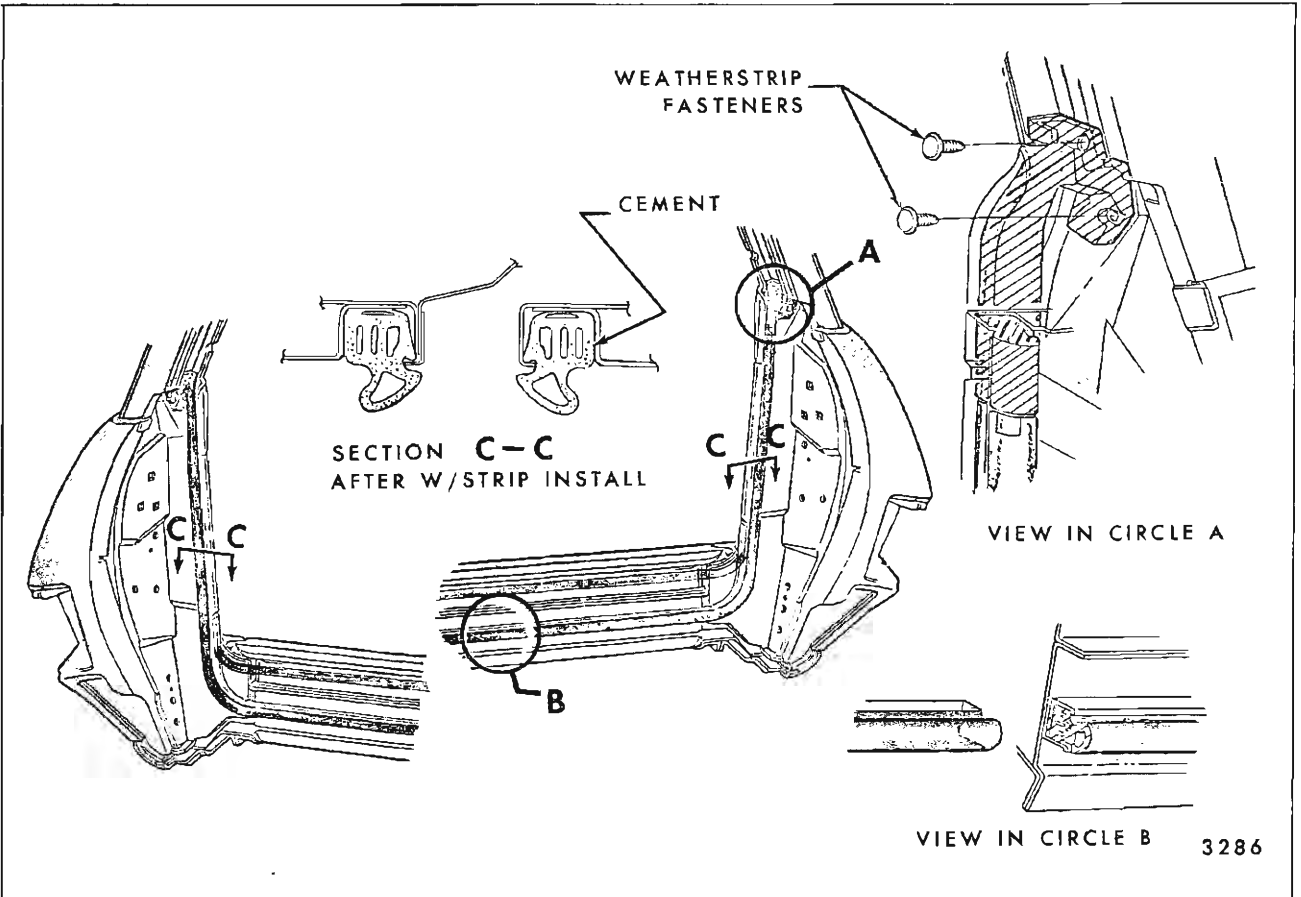

Fig. 9-32—Tail Gate Weatherstrip Installation
1. Open tail gate and remove fasteners and/or screws securing weatherstrip to right and left body pillars (at belt) (Fig. 9-32).